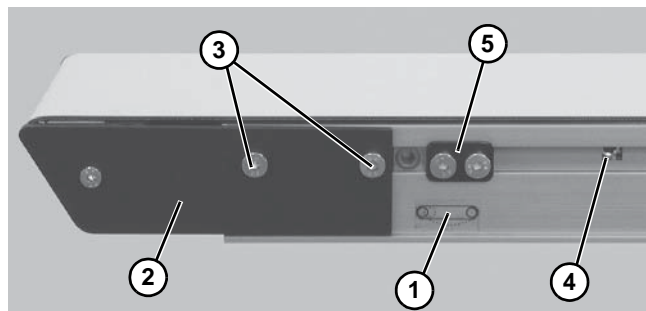
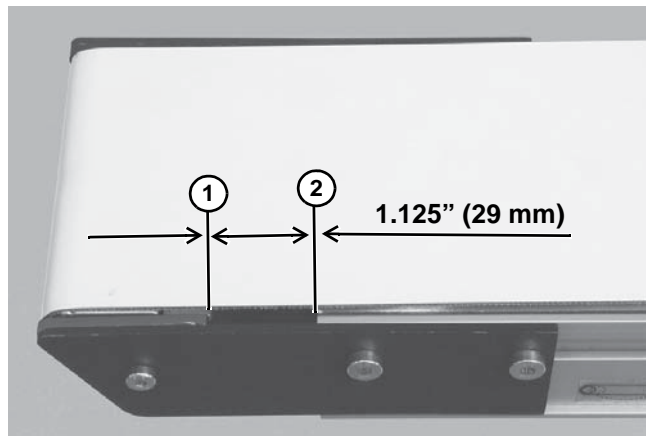

Figure 48
Figure 49
1. On tension end of the conveyor, identified with a  label (**Figure 48, item 1**), adjust head plate assembly (**Figure 48, item 2**): On both sides of conveyor, loosen fastening screws (**Figure 48, item 3**) and rotate pinion gear (**Figure 48, item 4**) to adjust head plate assembly.
2. Adjust head plate assembly so the edge of the axle support plate (**Figure 49, item 1**) is separated from the end of the conveyor (**Figure 49, item 2**) by 1.125" (29 mm). Tighten fastening screws (**Figure 48, item 1**) on both sides of conveyor to 60 in-lb (7 Nm).
3. If equipped with cam tracking assemblies (**Figure 48, item 3**) position against head plates and adjust belt tracking. Refer to "Conveyor Belt Tracking" on page 20.